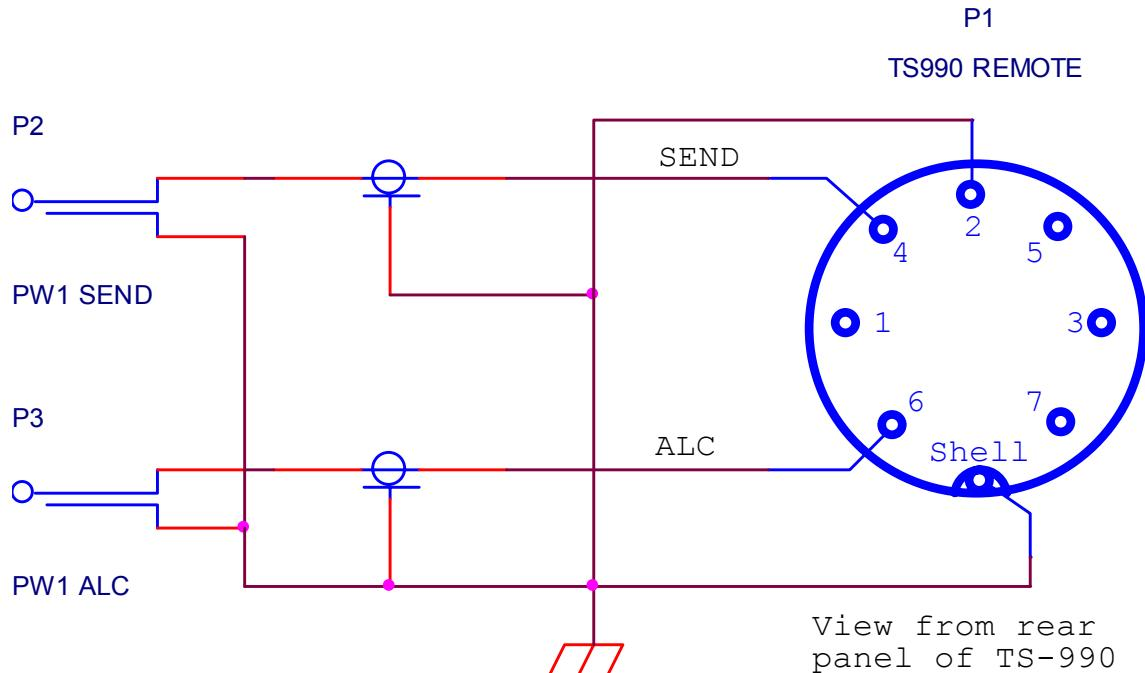

Figure 2: TS-900 to PW-1 Interface Cable Schematic
2. If the station will be used on 6 meters, Repeat Step 1 for 6 meters by navigating to Advanced Menu item 12 and setting it the same way.
3. Wire the TS-990 to PW-1 remote cable as shown in Figure 2: